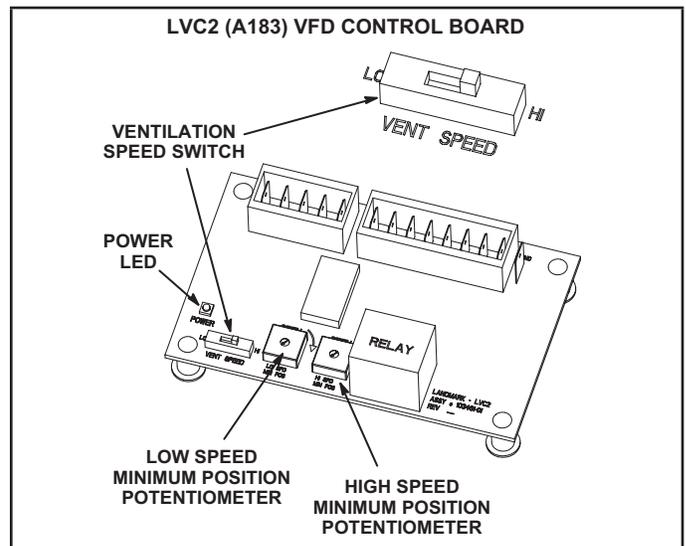

FIGURE 47
To save energy during ventilation, the blower speed can be set to low. This is accomplished by changing the ventilation speed switch on the VFD control board to "LO". See FIGURE 47.
To maintain required minimum ventilation air volumes when the unit is in the occupied mode, two minimum damper positions must be set. A high and a low speed potentiometer are provided on the VFD control board to adjust minimum damper position. See FIGURE 47.
- 5 - Check the power LED on the board. See FIGURE 47.
- 8 - When LVC2 24VAC thermostat blower (G) input and 24VDC power are present, check the LVC2 low and high speed outputs. The LVC2 uses inverse logic to enable the blower; 1VDC will be read at the enabled blower speed terminal. See TABLE 35.